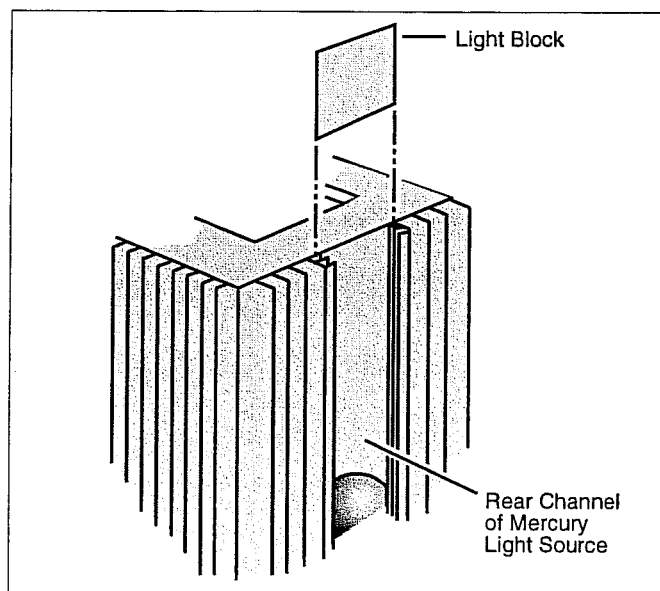
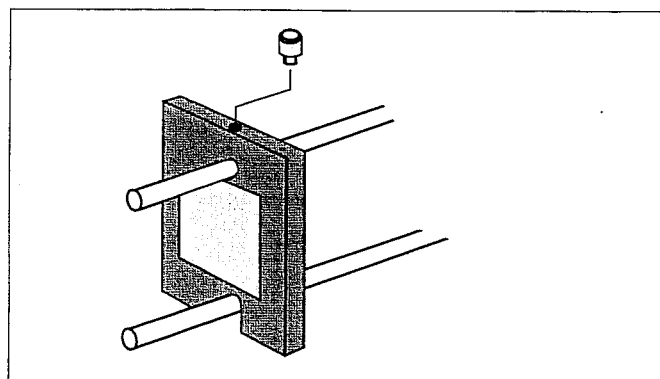

Figure 6: Installing the Light Block
Figure 7: Lens/Grating Mounting Detail
- ① The Light Source design allows simultaneous connection of two Light Aperture assemblies: one on the front and one on the back. If you are using only one Light Aperture and h/e Apparatus, install the Light Block (supplied with the Accessory Kit) in the mounting groove closest to the body of the housing on the back of the Light Source (see Figure 6).
- ② Slide the Light Aperture Assembly into the center mounting groove on the front of the Light Source. Secure it in place by finger-tightening the two thumbscrews against the front of the Light Source housing.
- ③ The Lens/Grating Assembly mounts on the support bars of the Light Aperture Assembly (Figure 7). Loosen the thumbscrew, slip it over the bars, and finger-tighten the thumbscrew to hold it securely.